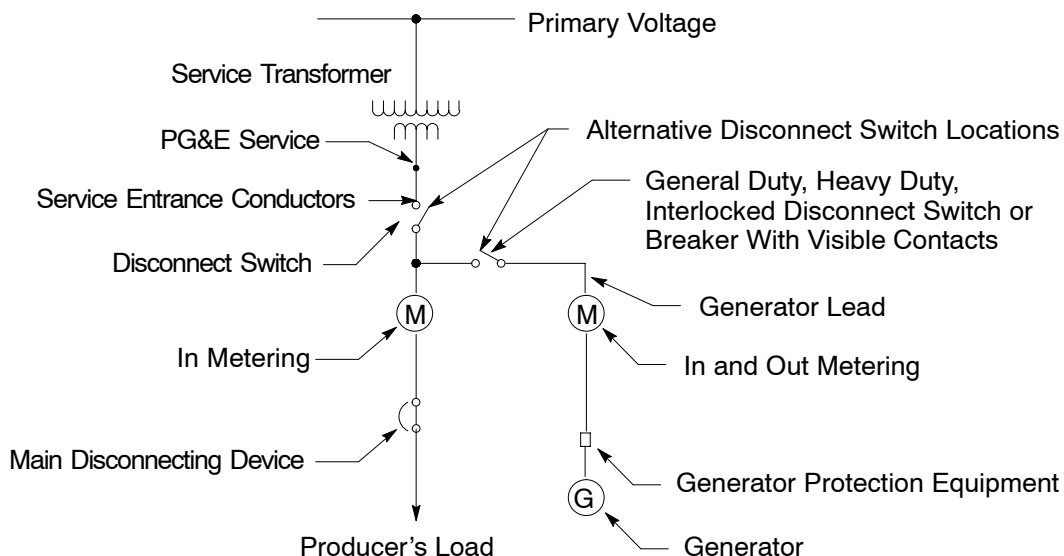

Figure 10
- A. Generator leads may be connected to the meter buses by bolting spade terminals to the bus bars (see Figure 10 on Page 17). One attachment hole per bus bar may be drilled provided the diameter of the hole does not exceed more than 30% of the bus width. Spade terminals must be tinned alloy suitable for Cu-to-Al connections.